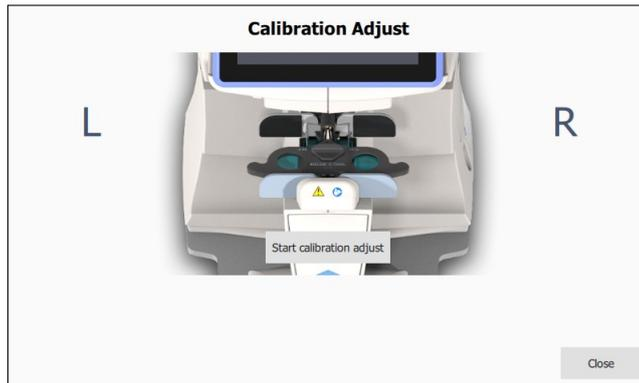
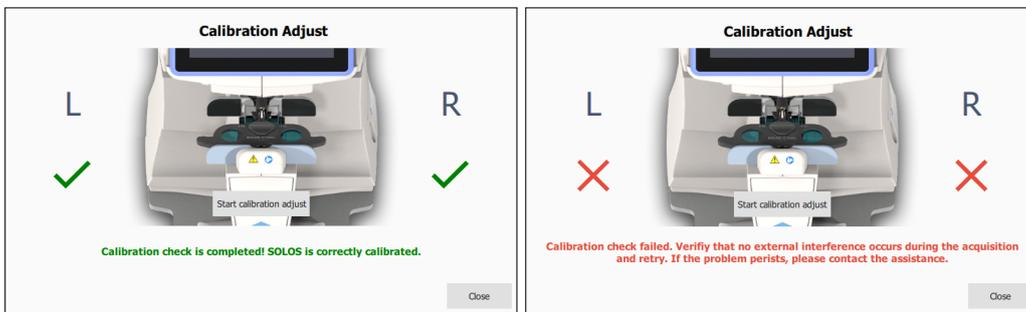

Figure 40: Calibration Adjust View
Figure 41: Calibration Adjust Result
**Calibration adjust:** it allows the user to check and adjust the current calibration. The Adjust calibration environment is shown in Figure 40. It is recommended to adjust the calibration every day when turning on the device. In case of failed calibration refer to technical assistance (see figure 41).